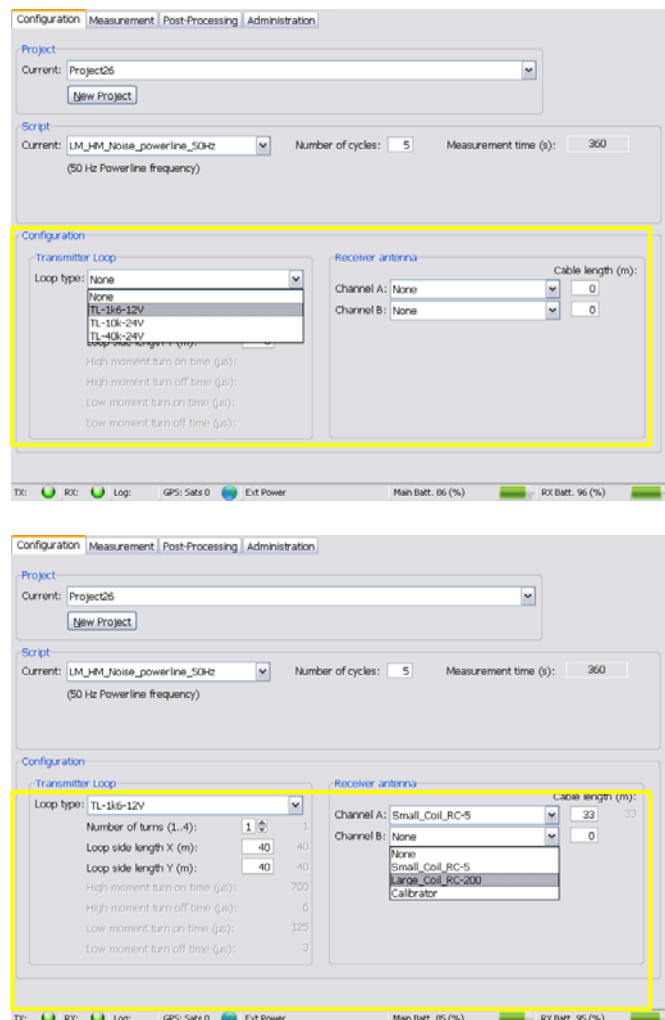

Figure 26. Configuration panel, where transmitter loop and receiver antennas are specified
3. In the Station panel, the GPS position of the instrument is displayed, see figure 26. This will be saved together with the measured data.